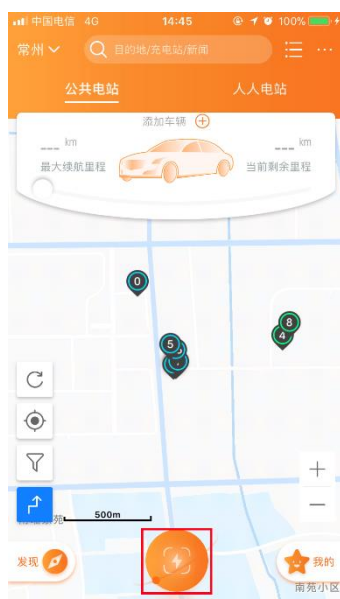

Figure 3-12 Mobile phone client interface (take the Star Charge interface as an example)
Step 3 Open "Star Charging" or other mobile clients, click the button in the red box as shown in Figure 3-12 to scan the QR code on the charging device interface.